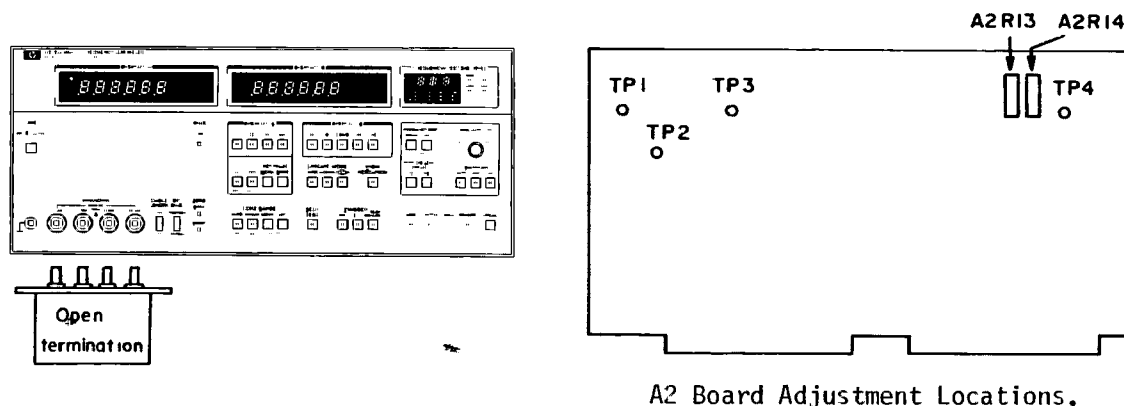

Figure 5-5. Bridge Zero Offset Adjustment Setup.
10. Connect a 500 Ω resistor in series with the reed relay contacts (see Figure 5-5).